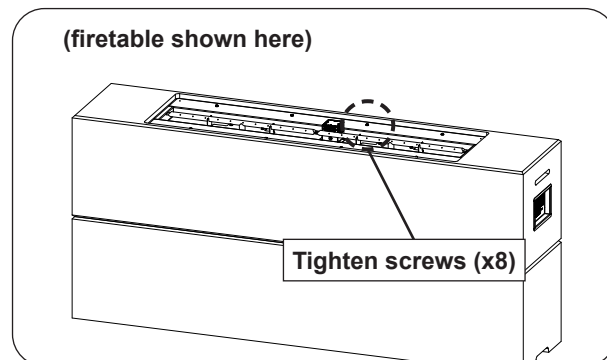

Fig. 31-3 Secure burner
2. Use a $\frac{5}{16}$ " nut driver to fasten the burner to the base (see Fig. 31-3).